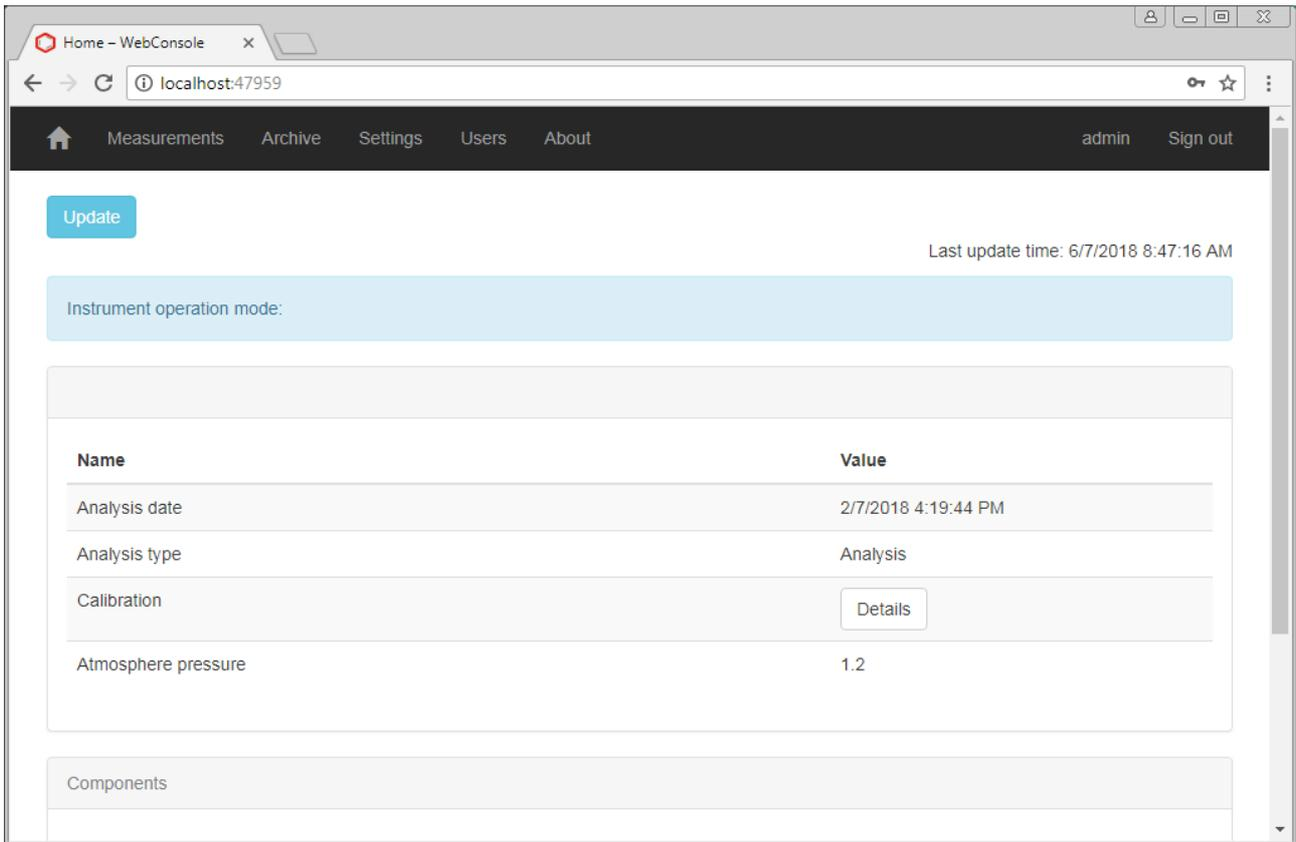

Figure 2 – Home page of the "CHROMOS PGC-1000" software
4. The user will go to the home page of the "CHROMOS PGC-1000" software (Figure 2).